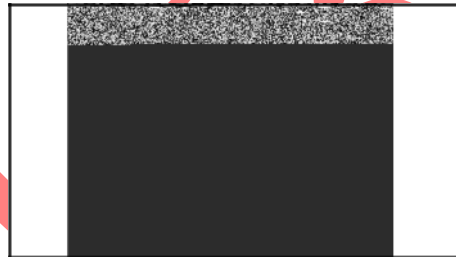

Figure 3
3. Place another jumper wire on the other pin in the solenoid connector and on the other terminal on the battery (Figure 3).